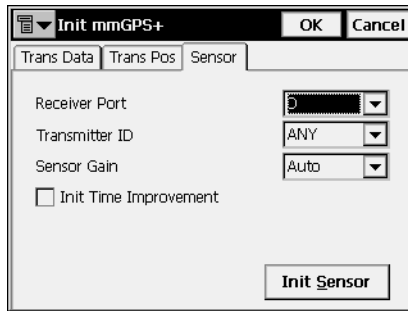

Figure 6-11. Init mmGPS – Sensor Tab
2. Select the *Sensor* tab and enter the following information (Figure 6-11 on page 6-11):